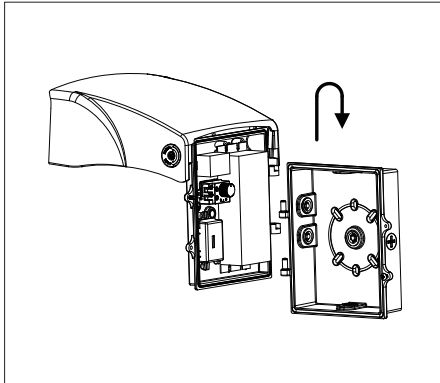
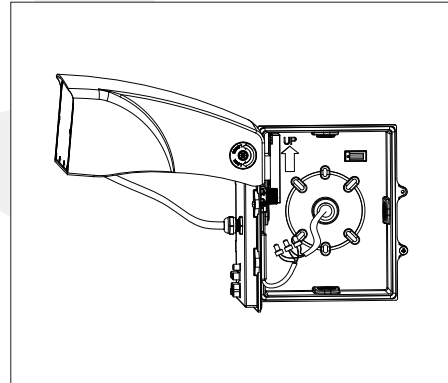

Figure 10
Figure 11
Step 7: Fasten the radiator to the driver box and connect the wires properly ((Figure 10 & Figure 11).